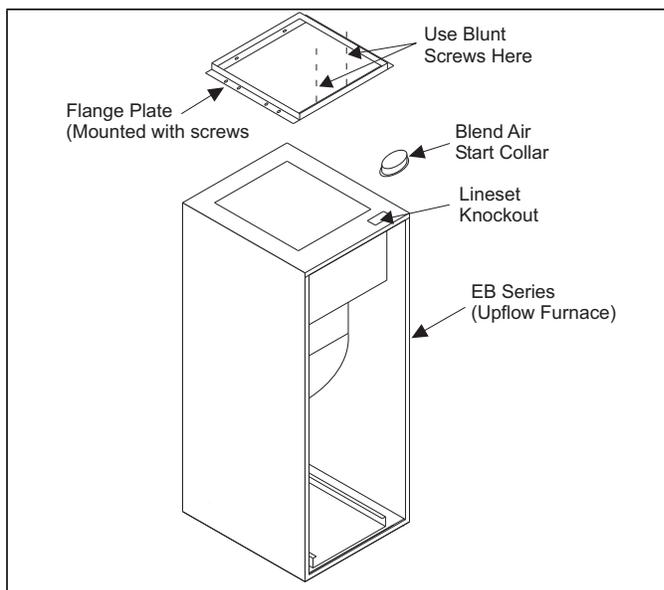

FIGURE 11: Blower Bracket and Duct Flange Attachment
8. Install the duct flange plate on top of the inverted furnace as shown in Figure 11.
10. The flange plate shipped with kit 3500.7211* is mounted to the furnace using eight (8) screws supplied with kit 3500.8961A. Two blunt screws should be used to secure the front edge of flange plate to furnace. See Figure 11.